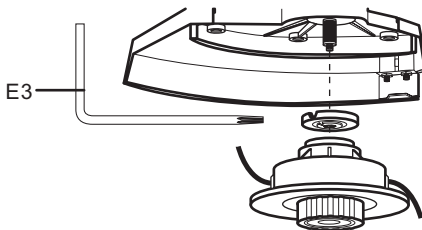

Fig. 34a
6. Remove the trimmer head (B11) by unscrewing clockwise. (See Fig. 34a)